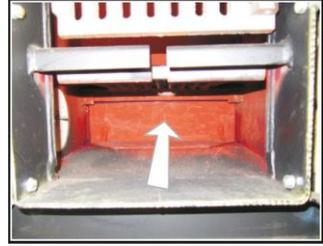

Fig. 11.
- d) Check for the ash scrub lid is installed correctly (see Fig. 11)